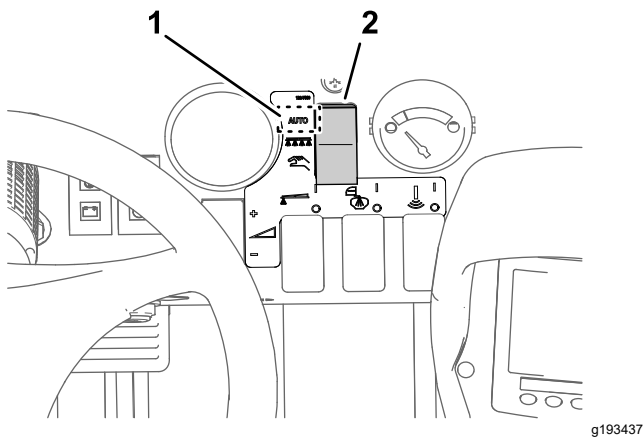

Figure 39
3. Set the sprayer mode button to the Application Rate Mode (Figure 39).